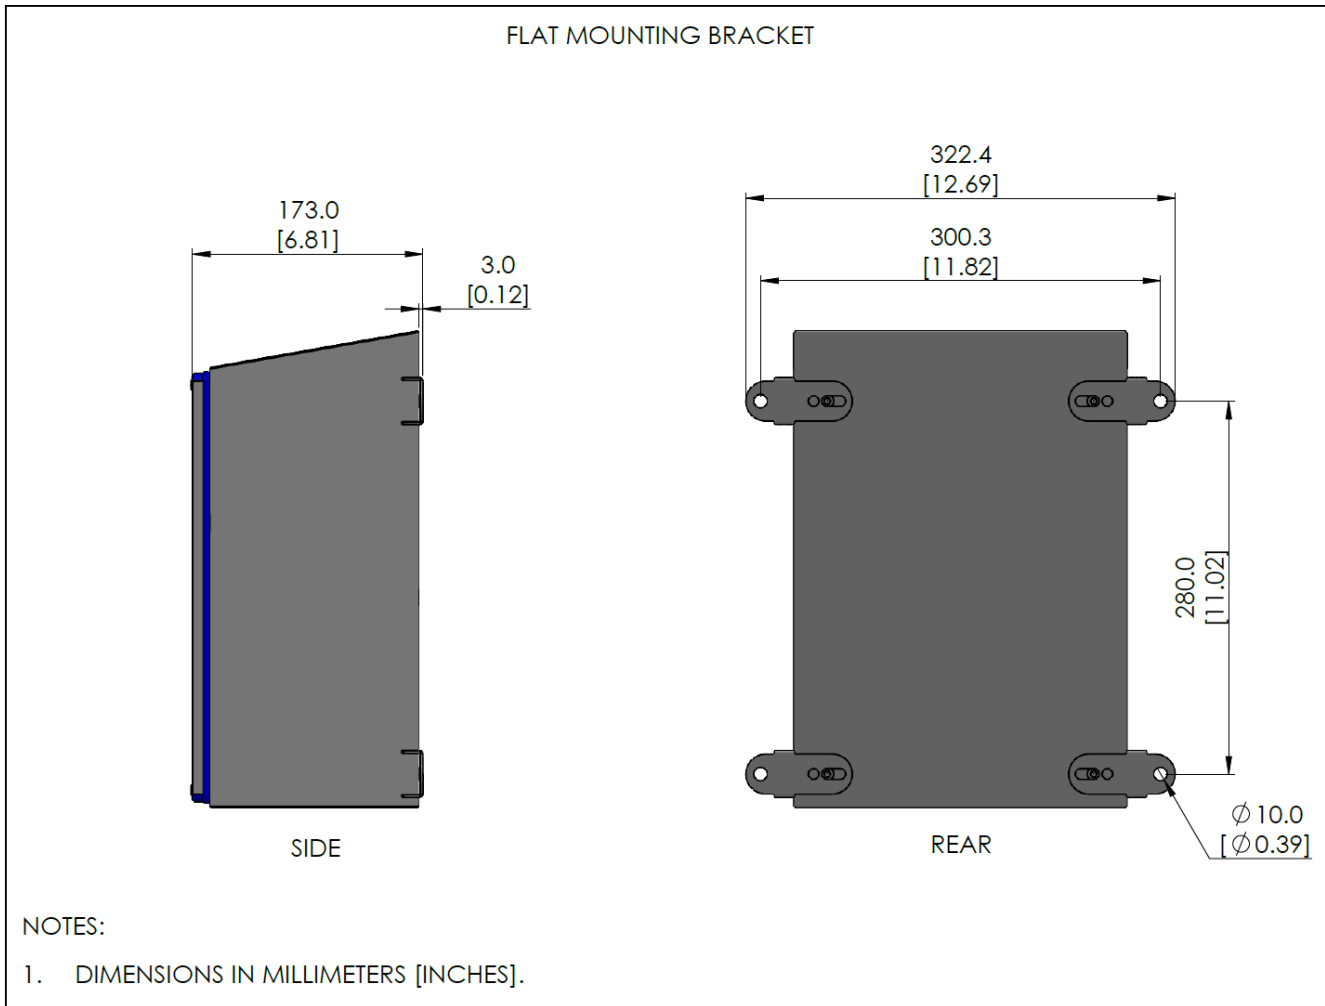

FIGURE 24. AC5000-MNT-02 Flat Mounting Bracket.
- AC5000-MNT-02 .....Stainless steel, flat style, kit of 4. See Fig. 24.